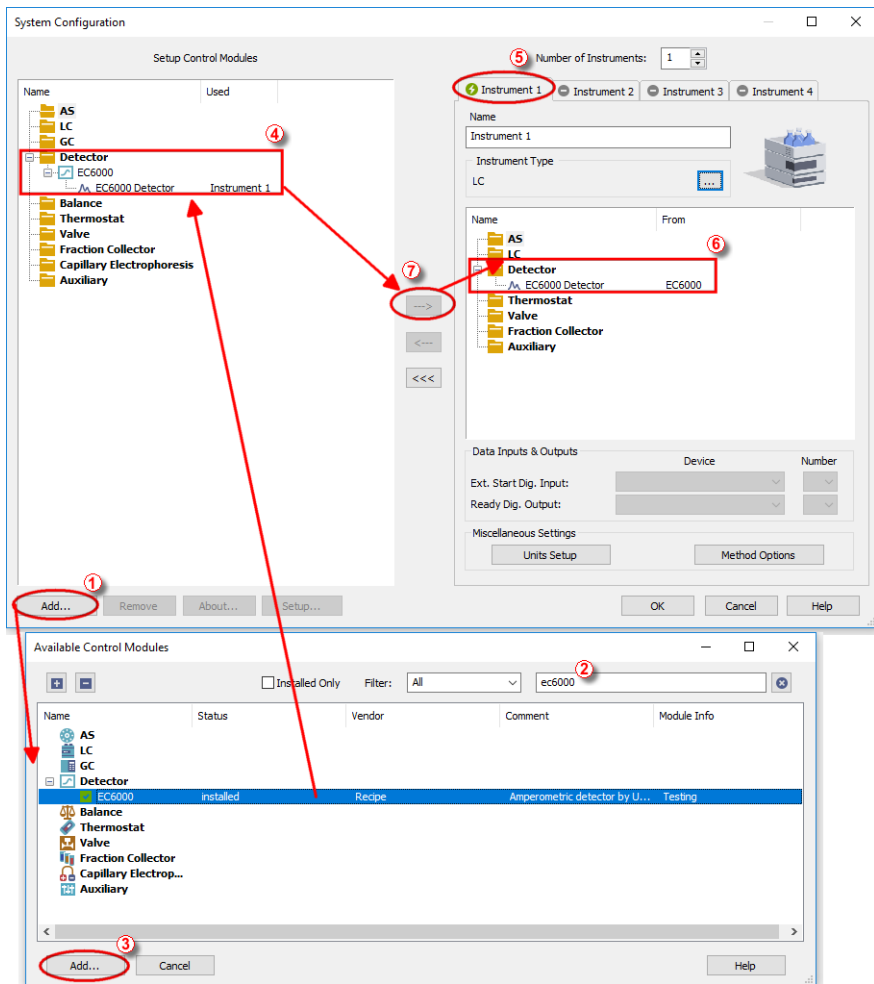

Fig 3: How to Add Recipe EC6000 module
- Press the **Add** button (1) on **Fig 3** on pg 4.) to invoke the **Available Control Modules** dialog.
- You can specify the search filter (2) to simplify the finding of the driver.
- Select the correct item and press the **Add** (③ on **Fig 3** on pg 4.) button. Each device with already created UNI profile should have its own item named accordingly in the **Available Control Modules** dialog.